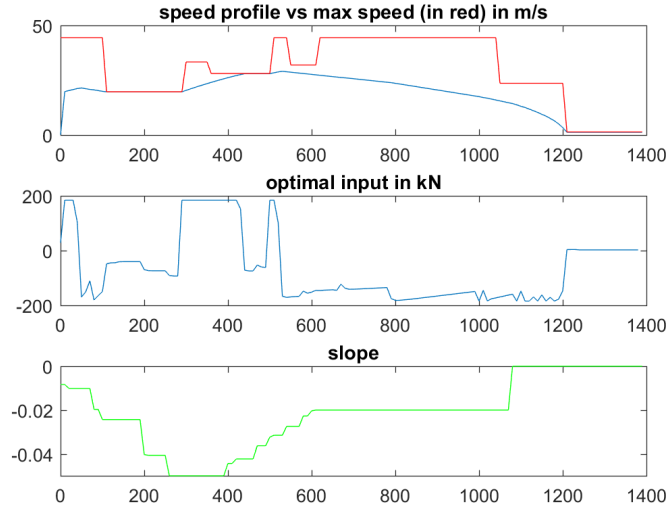

Figure 3: Example solution to the DP problem
- (b) Simulate system (11) in closed loop with the feedback controller you just computed over the whole length of the track, starting from position  $p_0$   $v_0 = 0.1$ . Submit your code. Report the optimal cost. In one plot add three subplots. Subplot 1: plot the closed-loop velocity sequence with the maximum allowable speed  $\text{maxspeed}(p)$  versus position  $p$ . Subplot 2: plot the optimal input sequence versus position. Subplot 3: plot slope vs position. My solution looks like the one in Fig. 3.